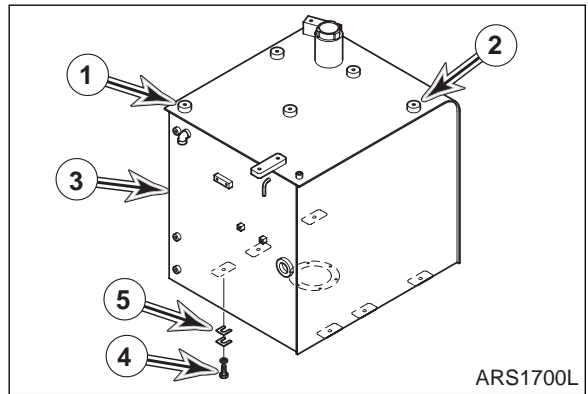

Figure 13
1. Install two 12 mm eye bolts in threaded holes (1 and 2, Figure 13). Using a suitable lifting device, sling eye bolts.
2. Set fuel tank (3, Figure 13) into position. Install six bolts and washers (4) finger tight, to secure tank to frame.
3. Install shims (5, Figure 13) as needed to prevent tank (3) from rocking or stress from mounting bolts (4).
4. Tighten mounting bolts (4, Figure 13) after shims are installed.